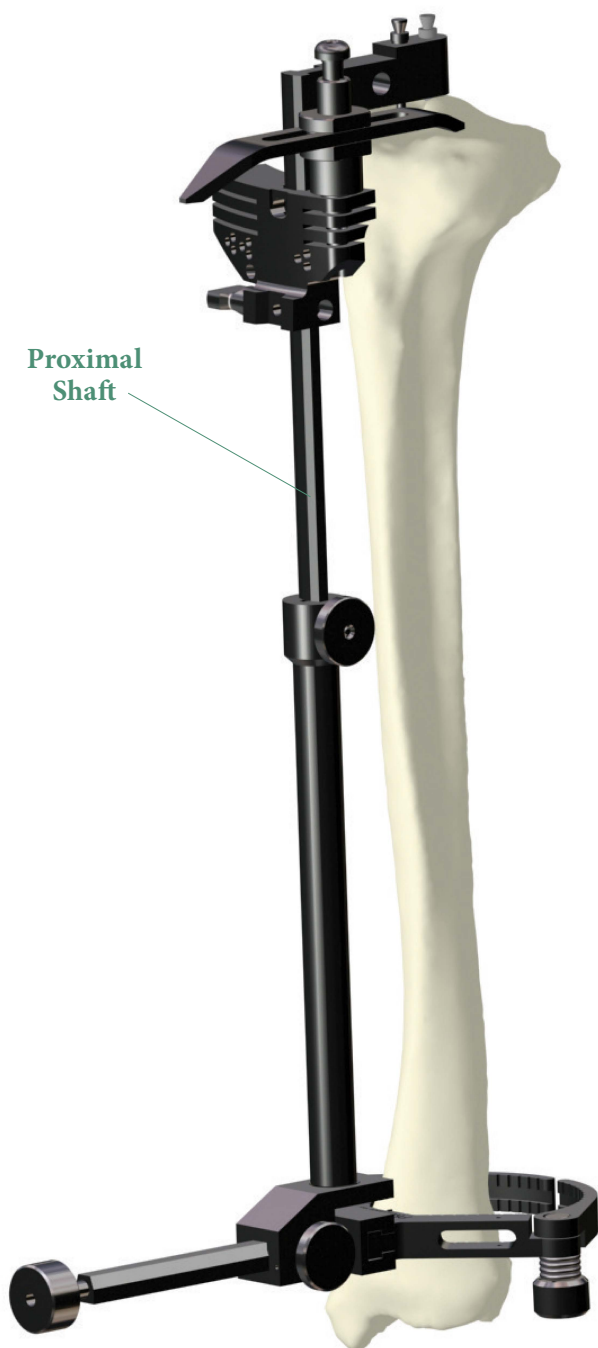

Figure 14
- Attach the Tibial Resection Guide/Tibial Stylus assembly to the External Tibial Alignment Guide by sliding it over the top of the proximal shaft, adjusting the stylus to reference the desired point on the tibial plateau (**Figure 14**).